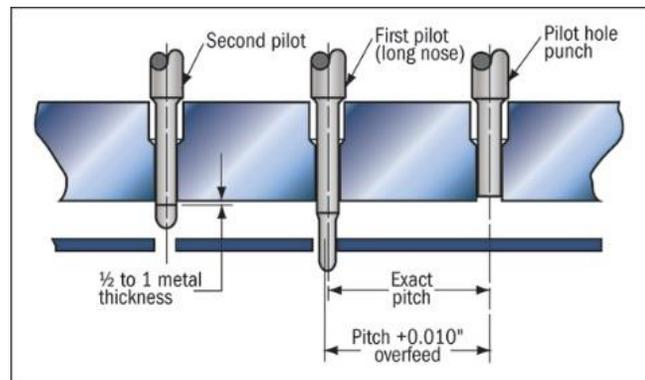

Figure 5 (3)
- Progression in a stamping die. See Figure 5. The strip may be underfed or overfed on successive hits – resulting in variations in the features within a stamping.